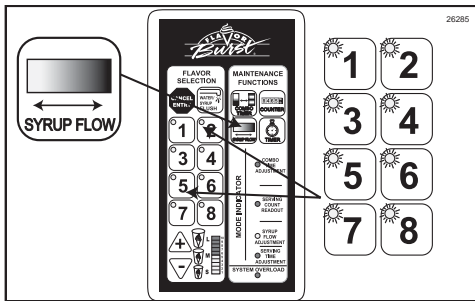

Figure 185
- To adjust all the flavors to the same level at once, do not select a specific flavor (skip step 1) before pressing and holding the SYRUP FLOW key for three seconds. (See Figure 185.)